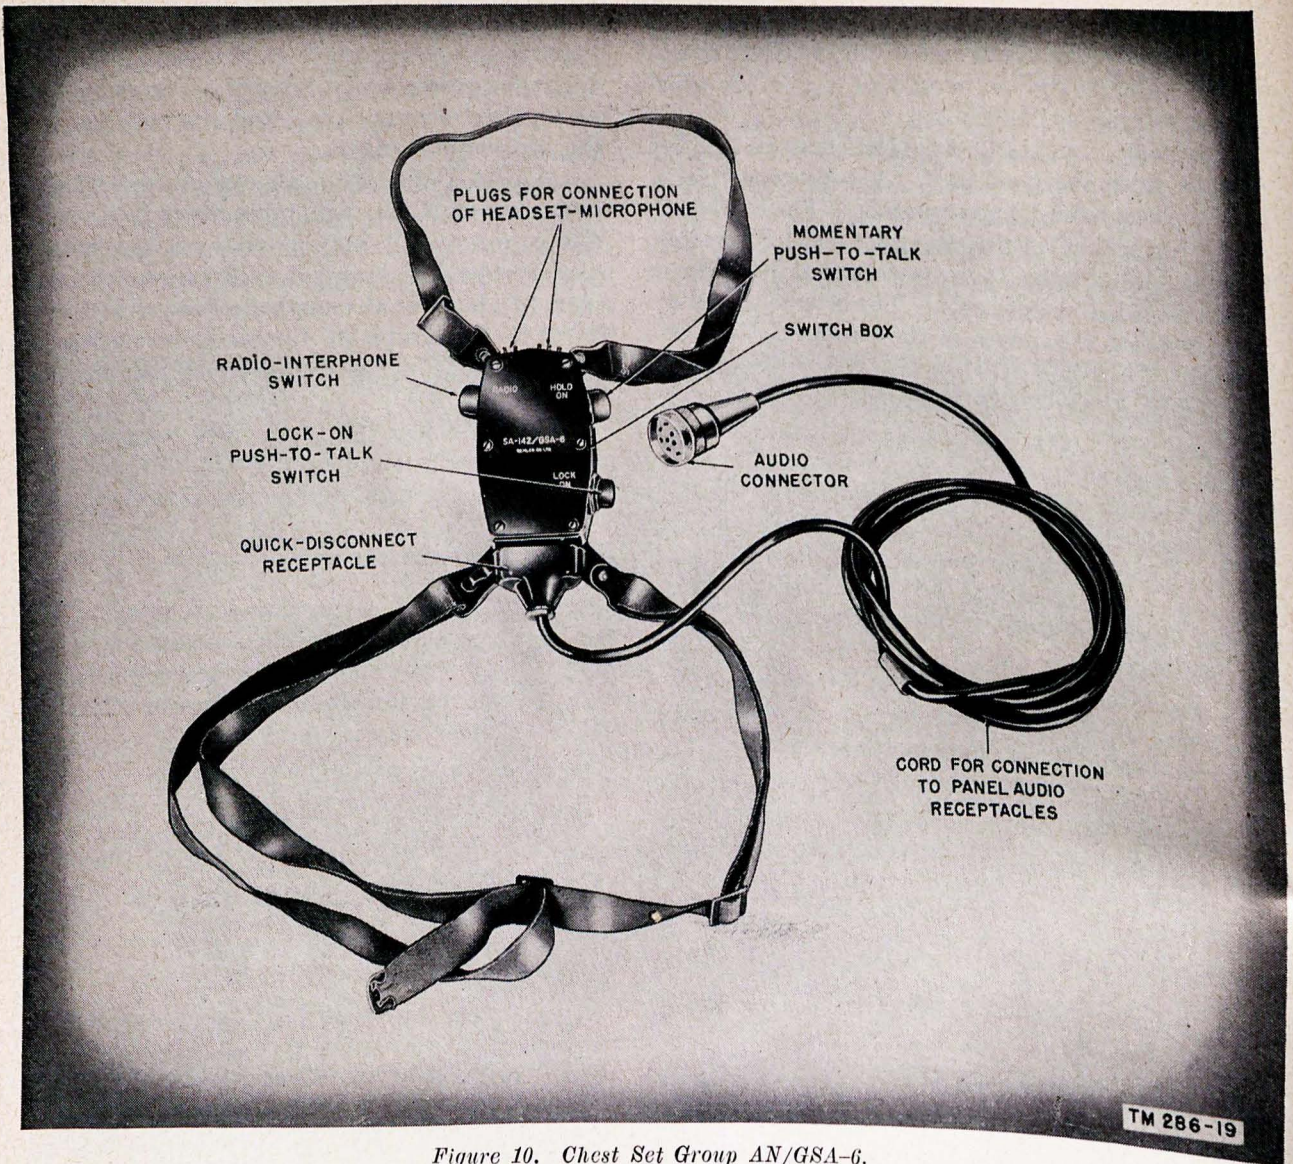

Figure 10. Chest Set Group AN/GSA-6.
b. CHEST SET GROUP AN/GSA-6. Chest Set Group AN/GSA-6 (fig. 10), in conjunction with Headset-Microphone H-63/U (*c* below), is the audio accessory most commonly used with the radio set. The chest set group consists of a chest-mounting switch box and a 5-foot cord which terminates in an 8-contact receptacle and a 10-pin audio plug. The receptacle mates with the plug on one end of the switch box and provides a quick-disconnect feature for the chest set. The audio plug will mate with any one of the 10-pin receptacles on the control units, the receiver-transmitter, and the interphone amplifier. Two plugs provided on the switch box will mate with the jacks